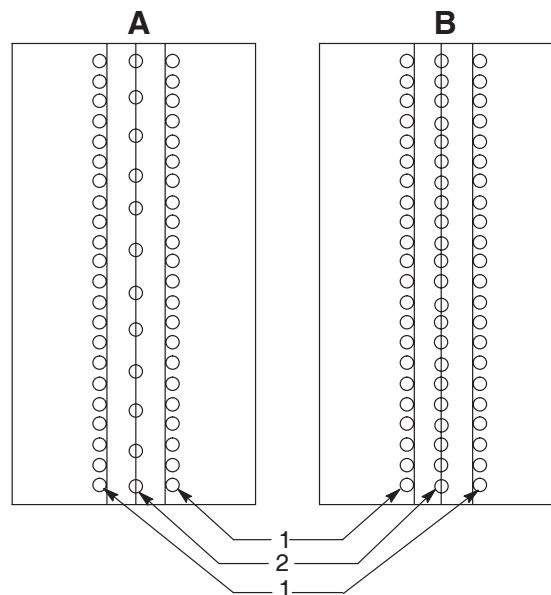

Figure 47 Air and adhesive openings on meltblown full coverage low-density (A) and high-density (B) nozzles
- See Figure 47. A full coverage, high-density nozzle has 24 openings that extend along the entire length of the nozzle. A full-coverage, low-density nozzle has 12 openings that extend along the entire length of the nozzle. The adhesive coating width in either case is 25 mm.